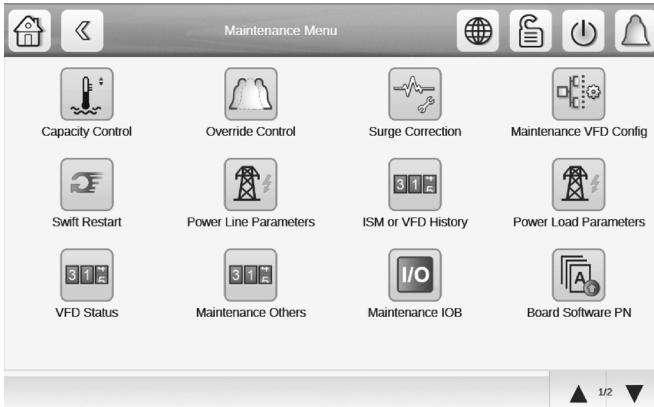

Fig. 35 — Maintenance Menu Calibration, Page 1
- Go to **Main Menu → Maintenance Menu → Temp Sensor Calib**. See Fig. 35 and 36.